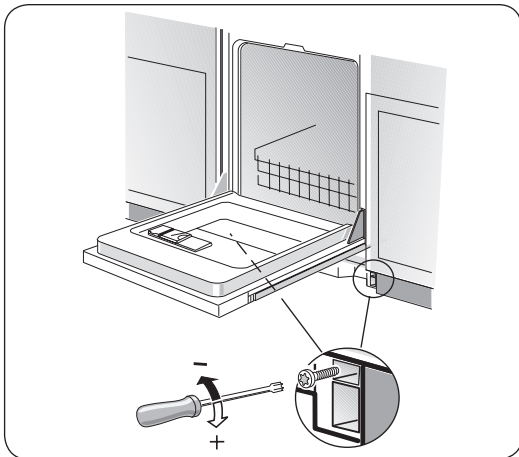

Figure 34
- 2 Insert the screws as shown in **Figure 34**. Turning the screw clockwise increases the spring tension.